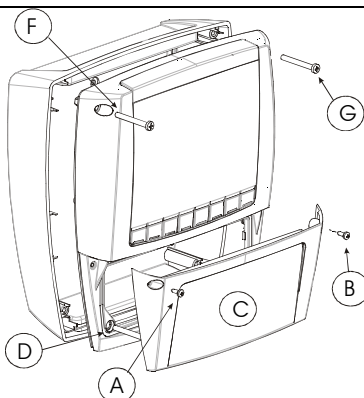

FIG. 2
9. After connecting the wires to the terminal blocks close the cover (Fig. 2, c) and fix it by the screws.